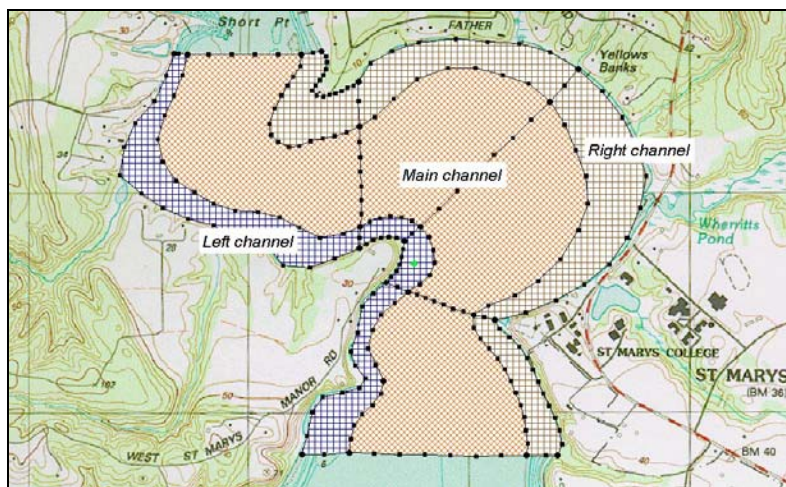

Figure 2-11 Polygons with defined material types.
3. In the *Polygon Attributes* dialog, make sure the *Polygon Type/Material* shows the correct material for the polygon, as shown in Figure 2-11.